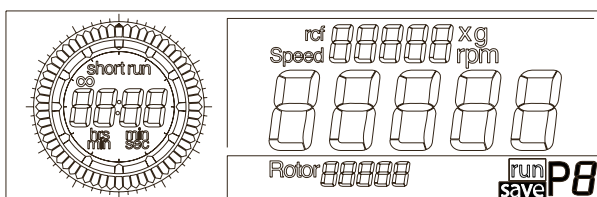

Fig. 5.15: Saving the programs;
- Turn the left rotary knob until “save” appears on the display (Fig. 5.15).